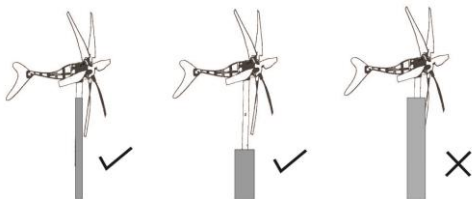

Figure 3: The clearance between the blade and pole
3. Make sure a minimum 50mm clearance is provided between the blade tips and any obstructions (Refer to Figure 3).